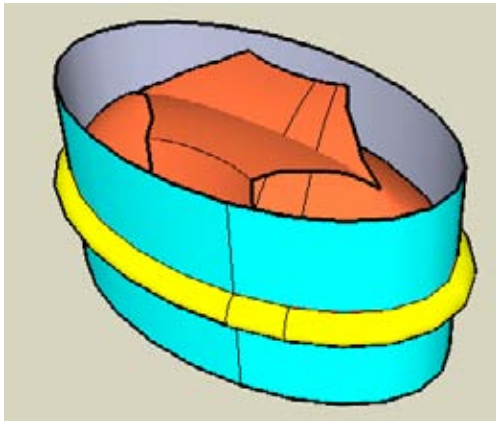

Figure 4-12
7. Select the bottom face of the cylinder so that its boundary edges will be used as the Follow Me path, and extrude the half-circle outside the cylinder. Then use the same path to extrude the larger arc face (Figure 4-12).